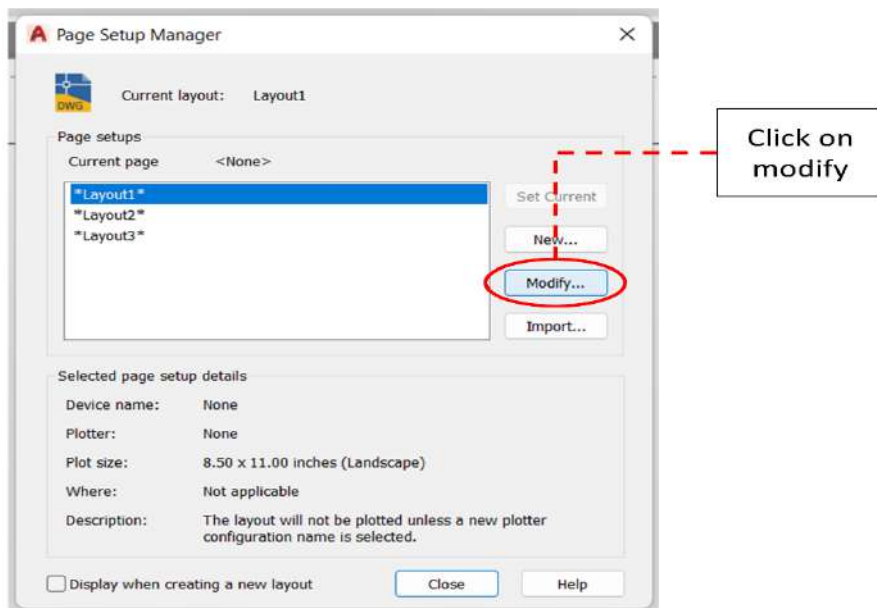

**Fig. 5.4:** Output option
Step 2: Navigate to the ribbon and Click Output > Plot > Page Setup Manager (refer to Fig. 5.4). This will prompt the Page Setup Manager dialog box to appear on your screen.